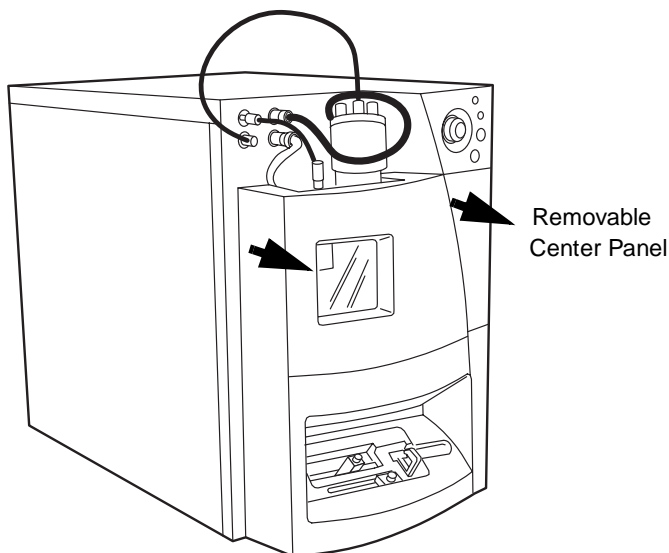

Figure A-1 ZQ Mass Detector, Front View
1. Remove the center panel from the front of the instrument, grasping its sides and pulling it toward you (Figure A-1).